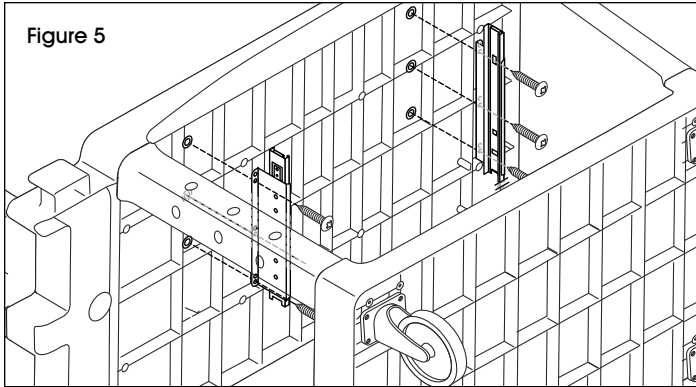

Figure 5
5. Attach drawer slides to bottom of top shelf using six large screws. (See Figure 5)